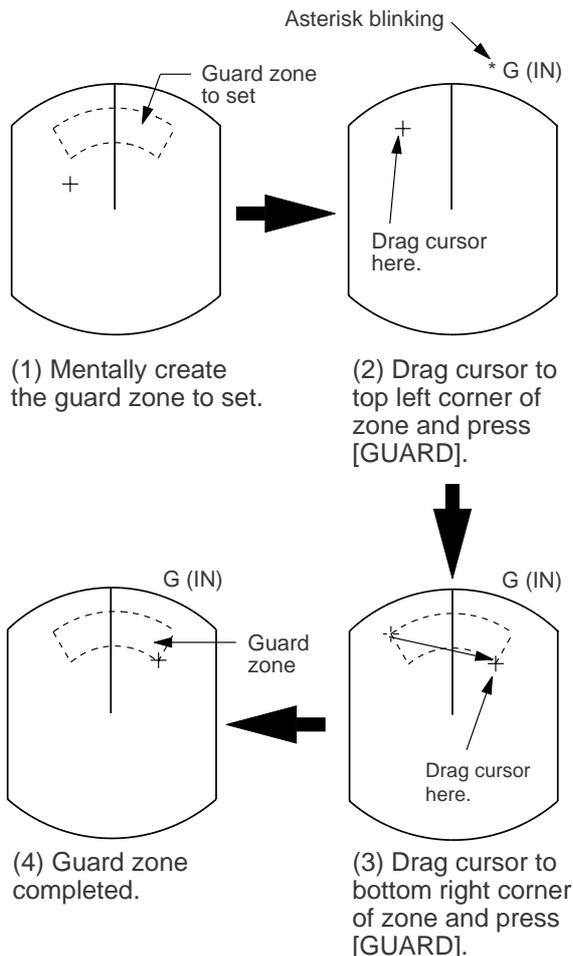

Figure 2-14 How to set a guard zone
- 1) Mentally create the guard zone you want to display. See Figure 2-14 (1).
- 2) Operate the cursor pad to set cursor on top (bottom) left edge of the guard zone. Press the [GUARD] key. \*G (IN) (or G OUT)), with asterisk blinking, appears at the top right-hand corner on the display. (The asterisk indicates the guard zone is partially set.) See Figure 2-14 (2).
- 3) Operate the cursor pad to set cursor on bottom (top) right edge of the guard zone and press the [GUARD] key. The asterisk disappears. See Figure 2-14 (3).
- 4) Guard zone appears on the display. See Figure 2-14 (4).